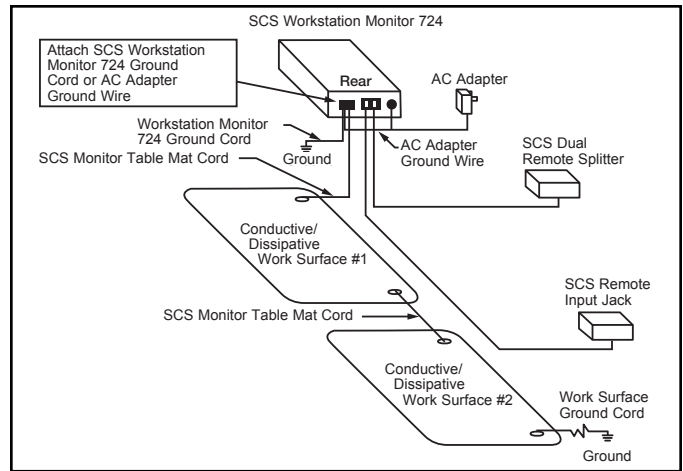

Figure 15. SCS 724 Workstation Monitor installation diagram for two workstations.
- a) Insert the plug connector of the 733 Operator Remote cable into the 733 jack at the rear of the SCS Workstation Monitor (Figure 15).